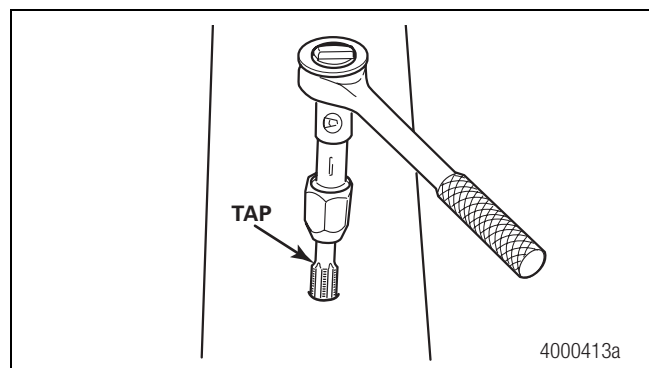

Figure 2.3
5. Use tapping lubricant and a 1/8-inch NPT tap to tap the drilled hole STRAIGHT into the axle. Do not run the tap completely through the hole. Leave some thread taper in the tapped hole. Figure 2.3.